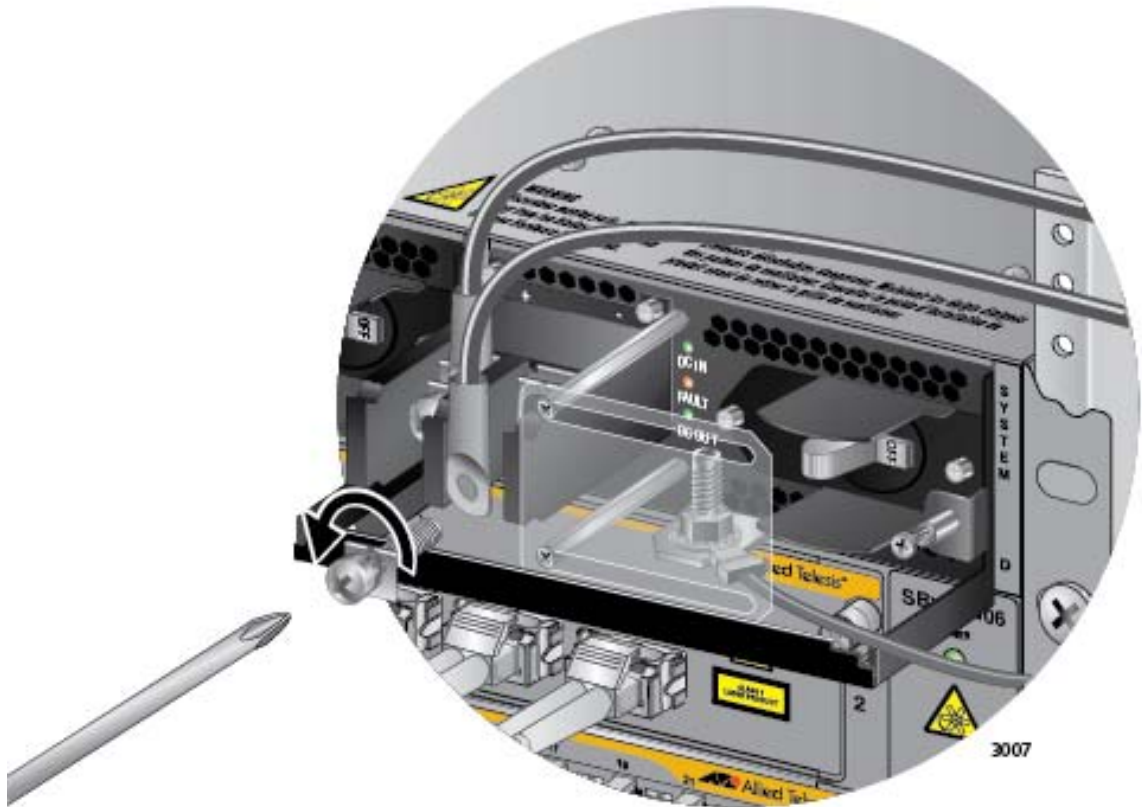

Figure 162. Removing the Negative Lead Wire
5. Use a #3 screwdriver to remove the negative (-) lead wire from the terminal block. The negative lead wire is on the right. Refer to Figure 162 on page 261.